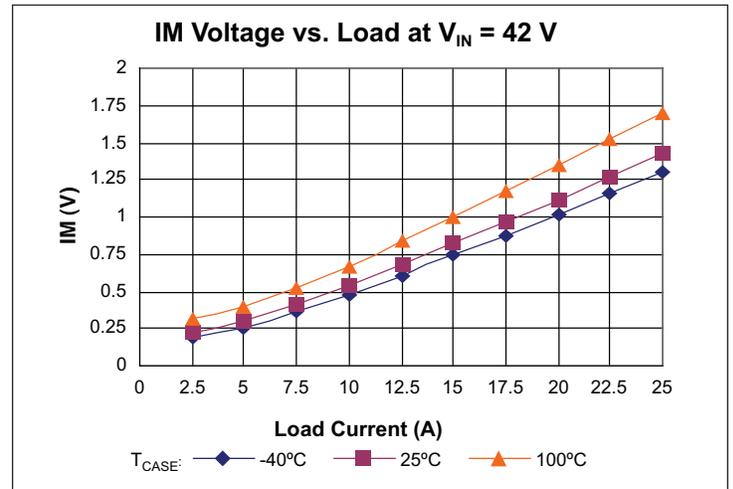

Figure 8 — IM voltage vs. load
**Current Monitor (IM)** pin provides a voltage proportional to the output current of the VTM module. The nominal voltage will vary between 0.2 V and 1.39 V over the output current range of the module (See Figures 8–10). The accuracy of the IM pin will be within 25% under all line and temperature conditions between 50% and 100% load.